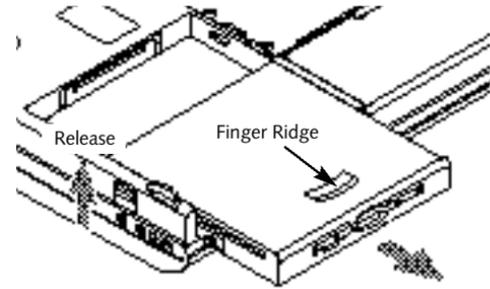

Figure 4-9 Removing a Device from the Multi-function Bay
3. With the module connector toward the back of your notebook align the grooves on the side of the device with the tracks in the side of the bay. (Figure 4-9.)